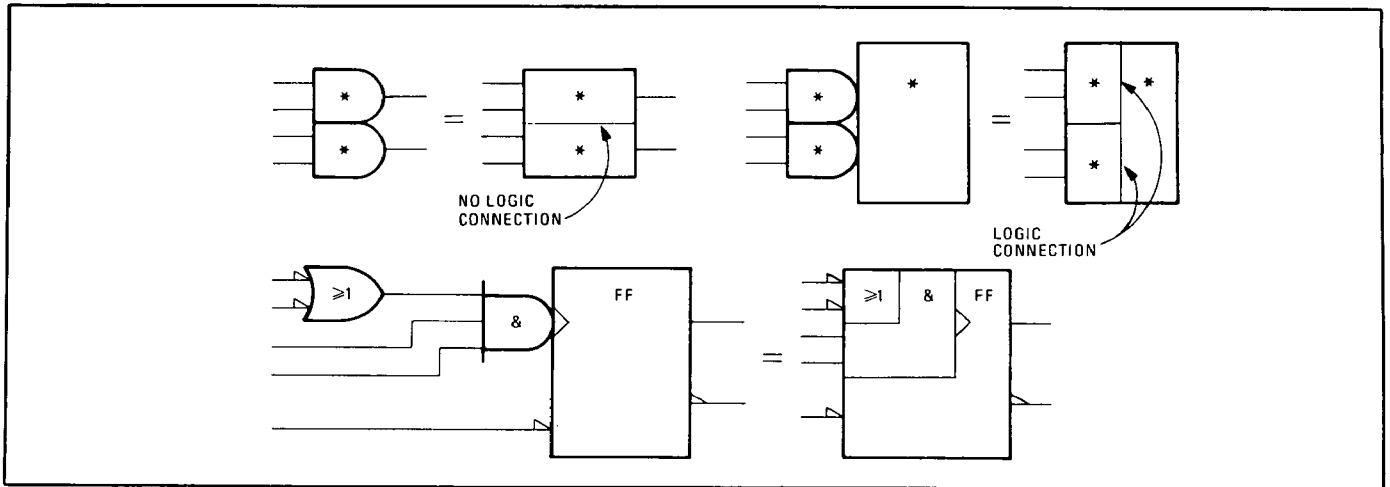

Figure 8-103. Contiguous Blocks
**Contiguous Blocks.** Two symbols may share a common boundary parallel or perpendicular to the direction of signal flow. Note that in the examples shown in Figure 8-103, there is generally no logic connection across a horizontal line, but there is always an implied logic connection across a vertical line. Notable exceptions to this rule are the horizontal lines beneath control blocks and between sections of shift registers and counters (dividers).